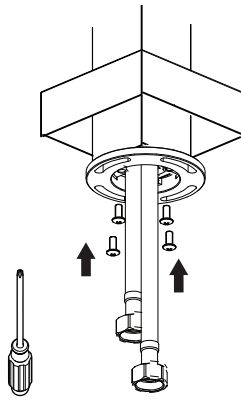

Figure 10
7. Attach the flange to the body, using the four screws provided as shown in Figure 10.